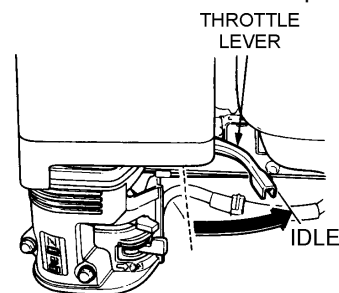

Figure 14. Throttle Lever (Idle)
1. Move the throttle lever to the **IDLE** position (Figure 14) and run the engine for three minutes at low speed.